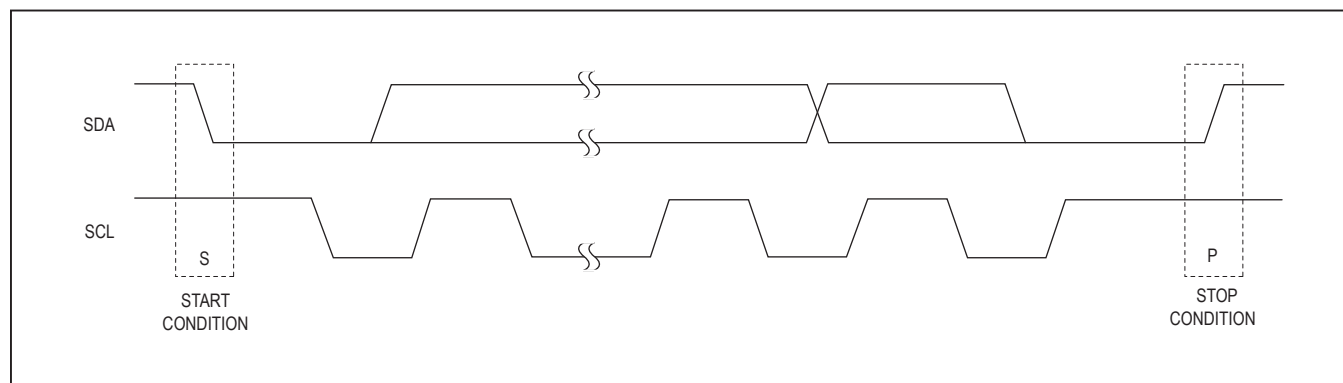

Figure 47. START and STOP Conditions
Both SCL and SDA remain high when the interface is not busy. A master signals the beginning of a transmission with a START (S) condition by transitioning SDA from high to low while SCL is high (see Figure 47). When the master has finished communicating with the slave, it issues a STOP (P) condition by transitioning SDA from low to high while SCL is high. The bus is then free for another transmission.